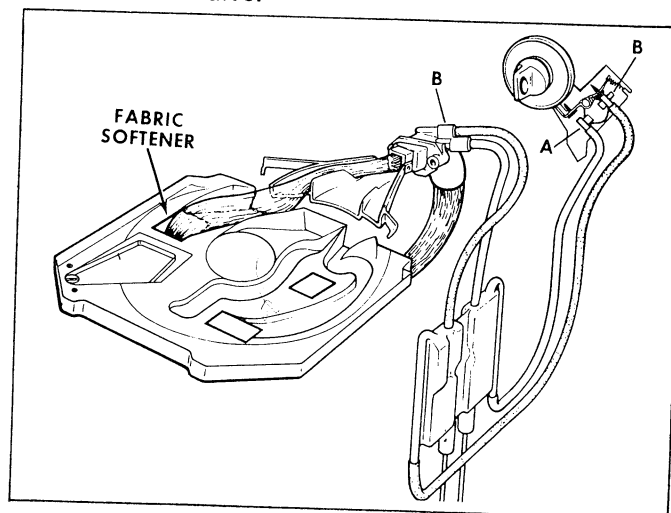

Figure 71
1. Check the syphon tubes in the fabric softner cavity, *Figure 71*. The tubes may become clogged with lint or soap products.